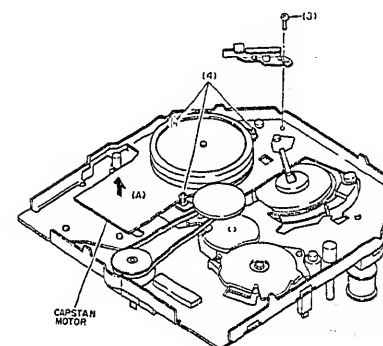

Fig. 2-5
- 2) Remove screw (3) holding the capstan motor bracket. (See Fig. 2-5)
- 4) Release three tabs (4) holding the capstan motor and remove the capstan motor in the direction of arrow (A). (See Fig. 2-5)